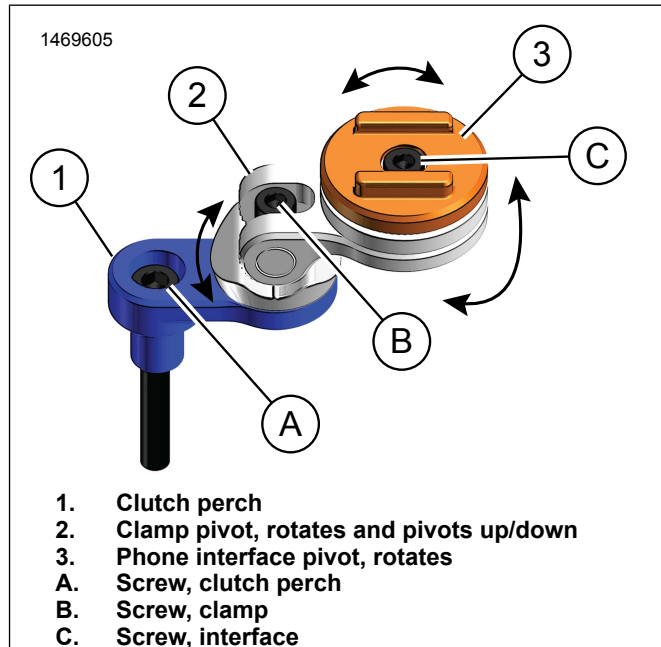

Figure 4. Pivot Points
4. Figure 4 Loosen screw (B) to adjust orientation on clamp pivot. Tighten.
5. Figure 4 Loosen screw (C) on phone interface (3) to adjust phone clocking. Tighten.